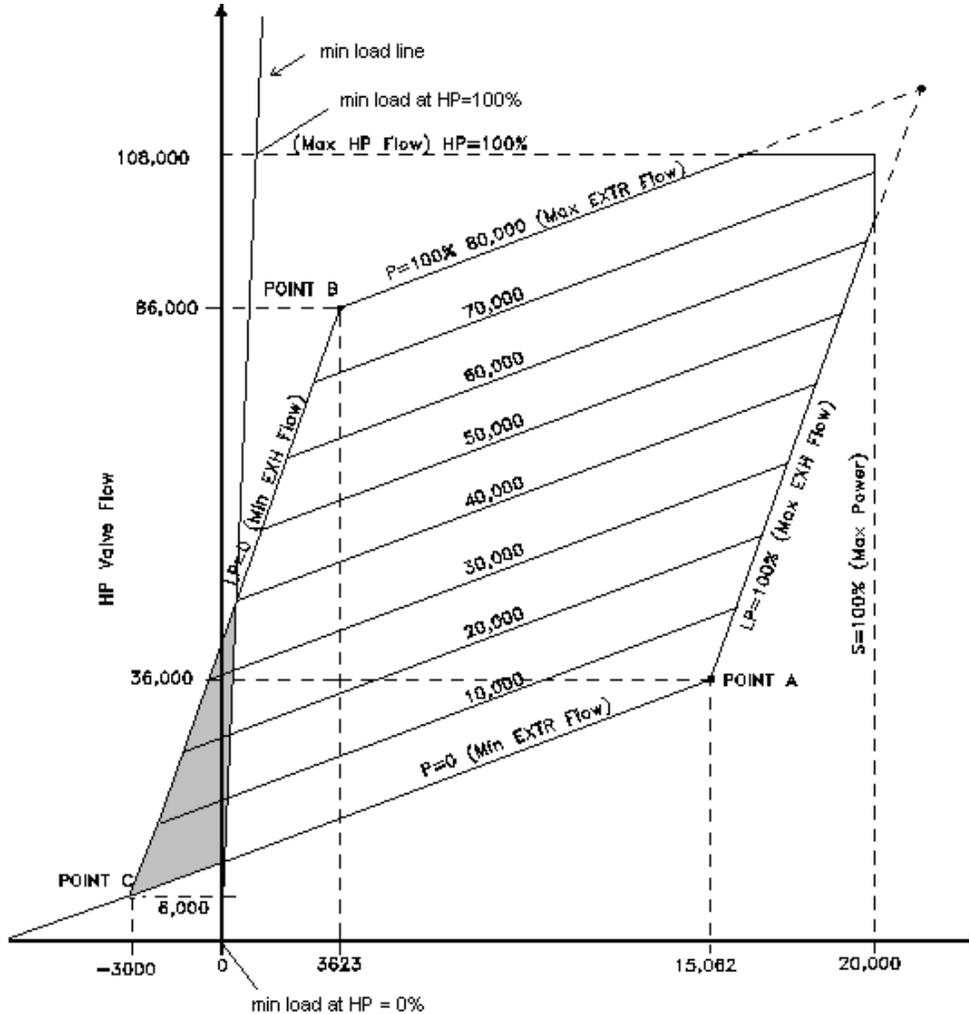

Figure 3-1. Typical Extraction Steam Map
**Extraction Only Steam Map**—Before a turbine's extraction steam map can be programmed into the control, it must have the intersection points A, B, & C (refer to Figure 3-1).
The eight values needed can be taken from the converted steam map. As an example, the following data was derived, using the above steam map in Figure 3-1: